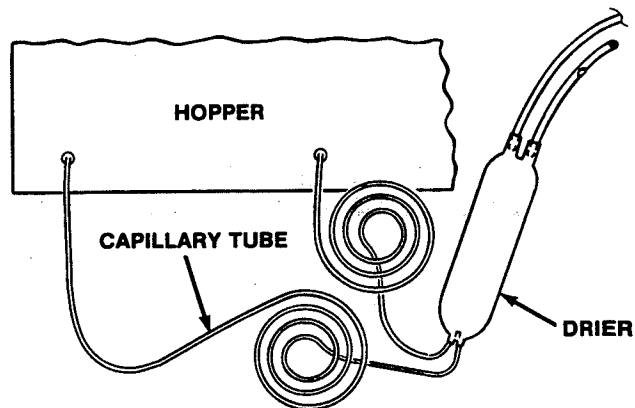

Figure 44. Capillary Tube and Drier Assembly
2. Position the smaller diameter tubes at the back of the hopper and braise the tubes to the hopper inlets using the appropriate brazing material. (Fig. 44).